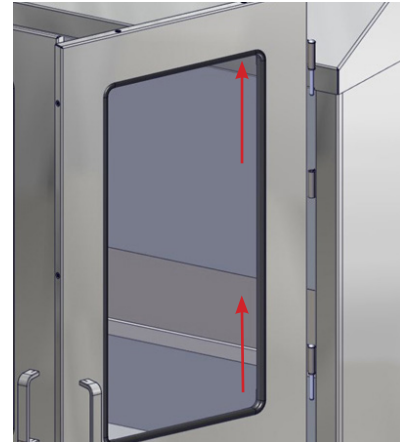

Fig. 8: Lift Door from Hinges
1. If the Operating Room Cabinet is equipped with doors, they may be removed for ease of installation. To remove the doors, open the doors fully and lift them off their hinges. The pin on the hinge of the door will slide out of the barrel of the hinge on the cabinet (Fig. 8).